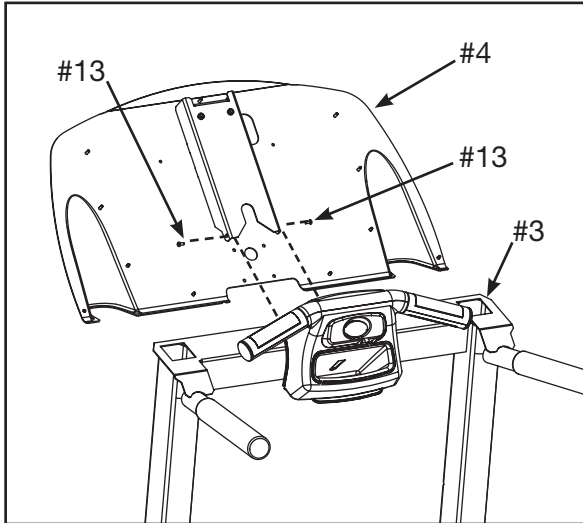

Figure 5
B. Place the console back (#4) in the correct position on the upright assembly (#3). See Figure 5.
C. Using a Philips head screwdriver install two screws 8-32 x .38" (#13) to hold the console back (#4) in place. Do not fully tighten at this time. See Figure 5.